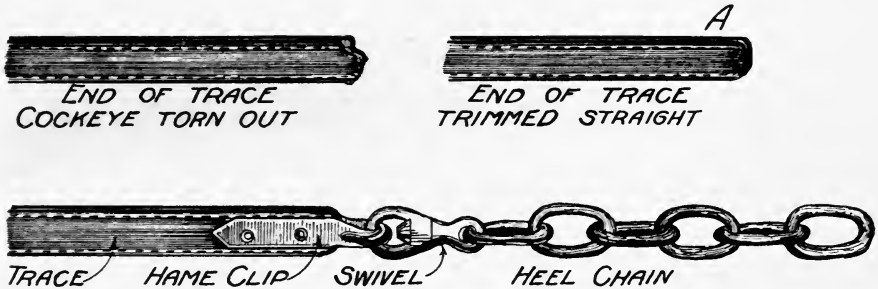

Fig. 23. Attaching Heel Chain to Trace with a Hame Clip.
1. Trim the torn end of the trace, A, Fig. 23.